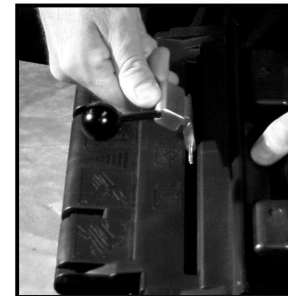

Figure 1
1. Insert the H4TL10 into the laser port on top of the cartridge as shown in (Fig. 1). The pegs on the angled portion of the tool should be aligned with the cartridge pins. Due to the variances of the cartridges, the pegs on the H4TL10 may not line up exactly, but after remanufacturing a few cartridges, you will get the "feel" of the pins.